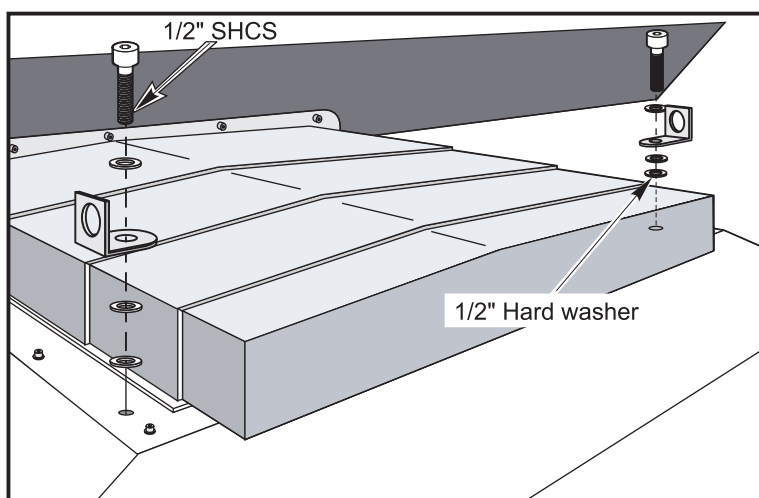

Fig. 12.26-7 Lifting bracket mounting location for VF-5.
1. Install the lifting brackets with (2) 1/2" -13 SHCS and (3) 1/2" hard washers, [(2) washers under bracket and (1) above bracket] on the base as shown in Figure 12.26-7. Tighten securely.